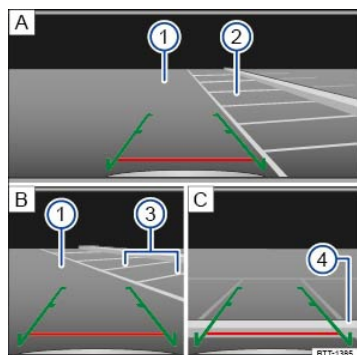

Fig. 127 Orientation lines for the parking space behind the vehicle.
Key to ⇒ Fig. 127 :
- Position the vehicle in front of the parking space ⇒ Fig. 127②A.
- Shift into reverse (R).
- Slowly back up and steer so that the lateral green orientation lines lead into the parking space ⇒ Fig. 127②A.
- Align the vehicle in the parking space ⇒ Fig. 127③B so that the green orientation lines are parallel to the selected parking space.
- Stop the vehicle before (or at the very latest, when) the horizontal red line reaches the rear boundary, for example, a curb ⇒ Fig. 127④C.